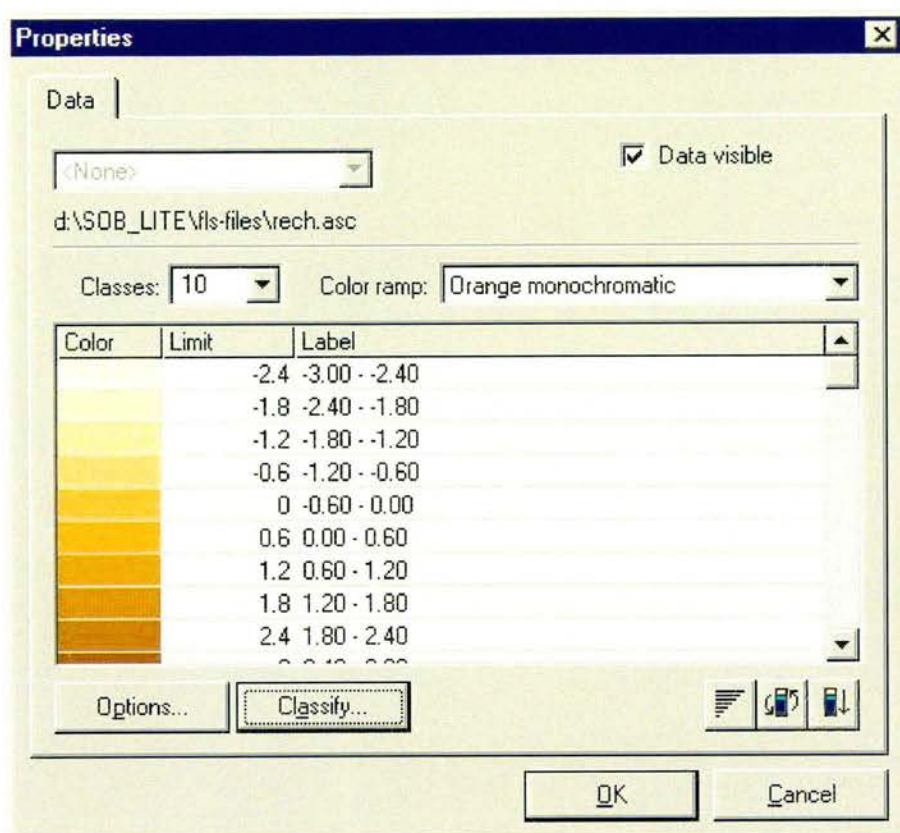

Figure 5.8 D2 grid options / Z-data / properties
- 2D grid options / Z-data / properties (see Figure 5.8: you can define yourself the scale for the z-terrain level data, the colour tone, the order, and to make the data visible or not);